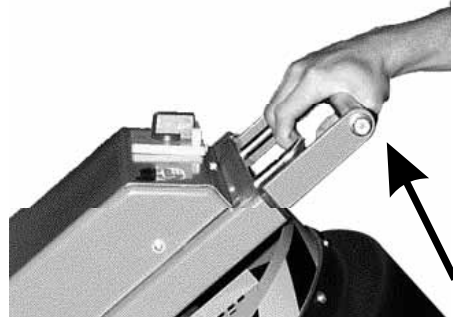

Figure 3. Opening the Mixer
3. Pull up the swivel arm to open the mixer. See Figure 3.